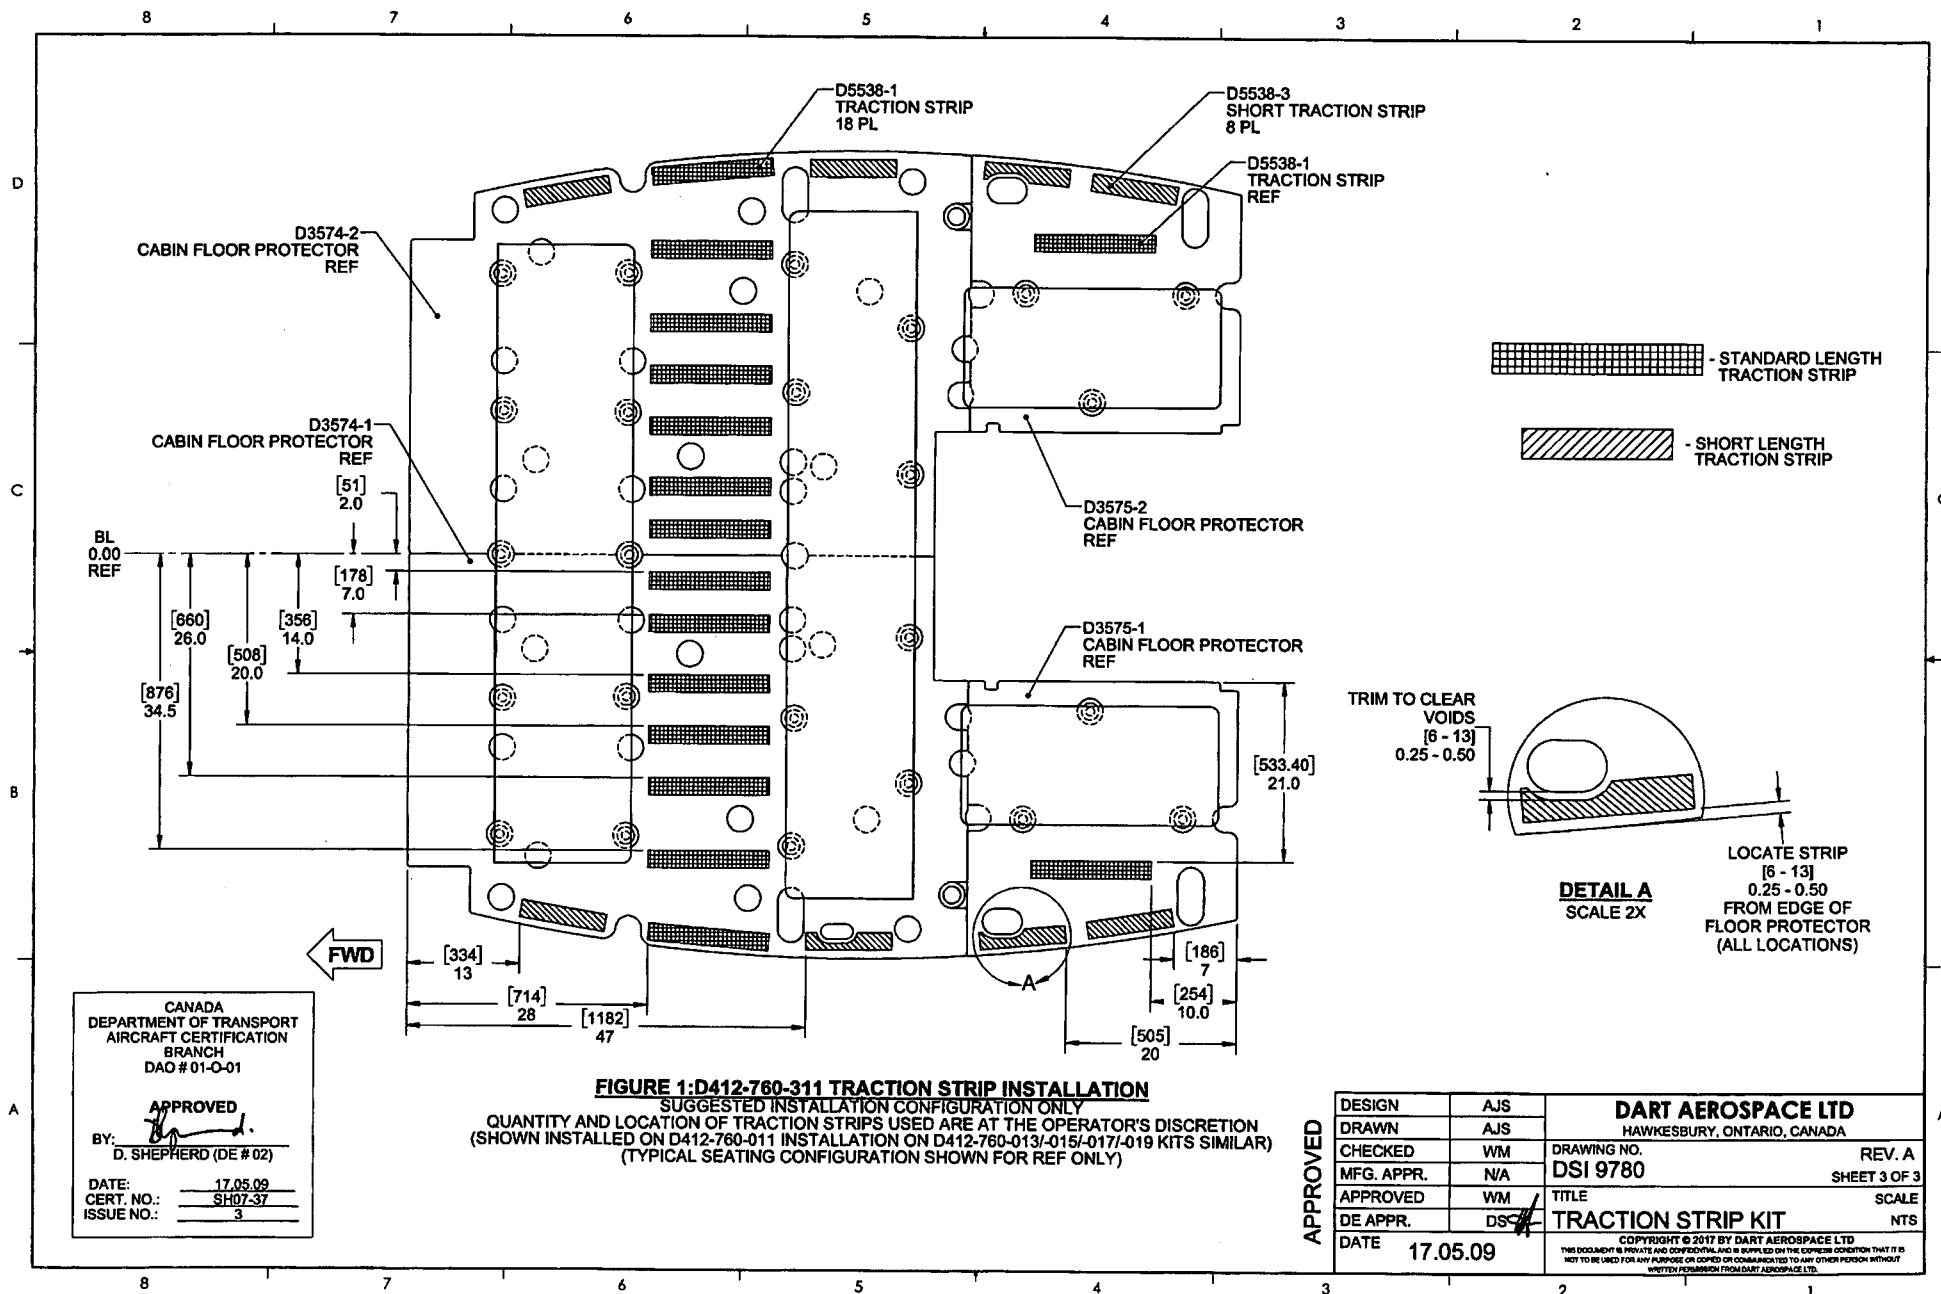

FIGURE 1:D412-760-311 TRACTION STRIP INSTALLATION
2.1 The number and location of D5538-1/-3 Traction Strips are to be applied at the installers discretion. Figure 1 is a suggested configuration which covers the "high traffic" areas of the passenger cabin.
Note: In the configuration shown in Figure 1, (24) Traction Strips are used (16) Standard and (8) Short. There will be (3) spare strips, (2) Standard and (1) Short.
2.4 Locate the D5538-1/-3 Traction Strips in the desired location. The Traction Strips should be located 0.25" - 0.50" (6mm - 13mm) from the edge of the cabin floor protectors as shown in Figure 1 Detail A, to prevent the Traction Strip from peeling.
2.5 If the Traction Strip is located on one of the "voids" on the cabin floor protectors, as shown in Figure 1 Detail A, transfer mark the shape of the "void" to the back face of the Traction Strip and trim the strip, prior to installing the Traction Strip. Ensure that the edge of the strip is 0.25" - 0.50" (6mm - 13mm) from edge of the "void" as shown Figure 1 Detail A to prevent peeling.